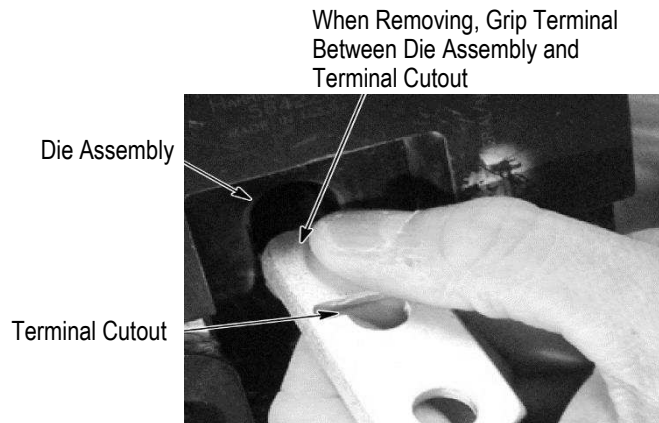

Figure 4
5. Remove the crimped terminal from the die assembly. When removing a terminal from the die assembly, grip it as shown in Figure 4.
6. Grip the crimped terminal as shown in Figure 4 and remove it from the die assembly.